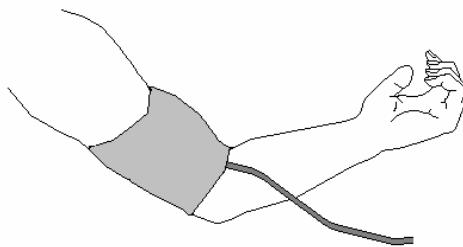

Figure 6.29 Diagram of Cuff Wearing Position
- When placing the cuff, first flatten and wrap on the upper arm surface to desired tightness, as referred to Figure 6.29.